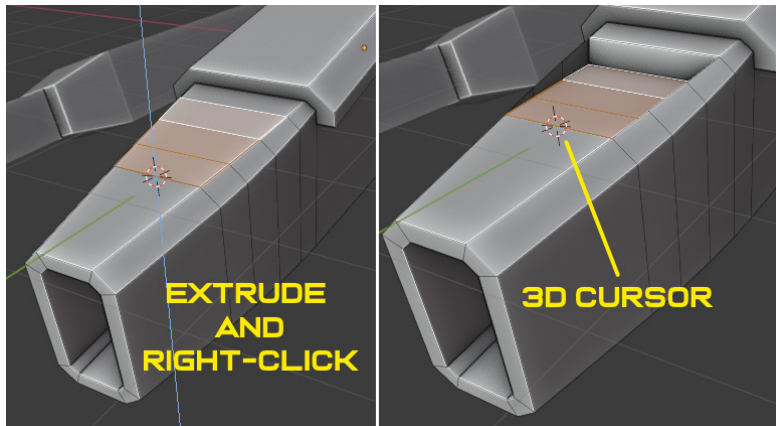

Figure 5.24 – Nose dent
12. Place the 3D Cursor at the front edge, as shown in *Figure 5.24*, and scale the faces to 0 on the Z axis to flatten them.